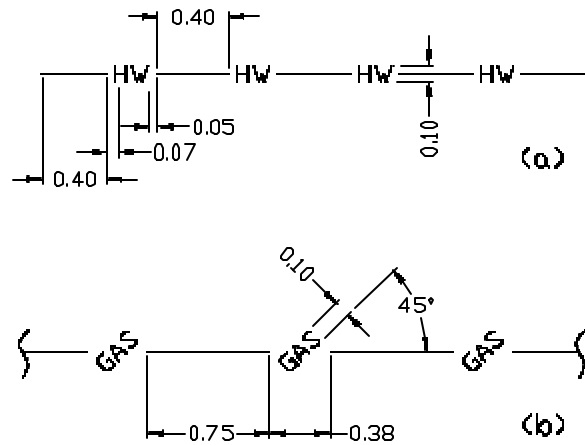

Figure 31-38 Specifications for string a complex linetype
- Write the definition of a string complex linetype (hot water line) as shown in Figure 31-38(a). To determine the length of the HW text string, you should first draw the text (HW) using any text command and then measure its length.
- Write the definition of a string complex linetype (gas line) as shown in Figure 31-38(b). Determine the length of the text string as mentioned in part a, above.